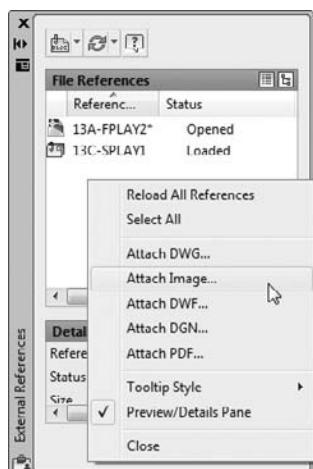

FIGURE 13.28 Attaching an image from the External References Palette
2. Right-click a blank area in the File References area below the existing filenames, and choose Attach Image from the context menu shown in Figure 13.28 to open the Select Image File dialog box.